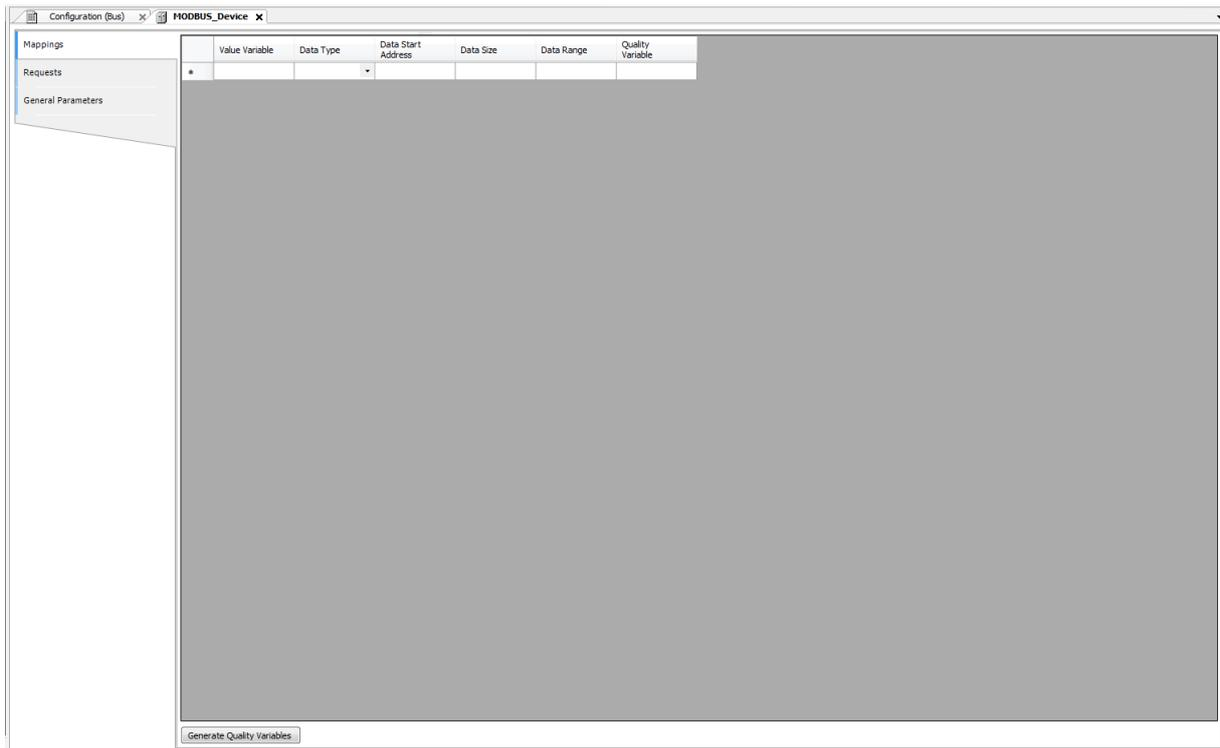

Figure 56: MODBUS Data Mappings Screen
- Add and configure the MODBUS mappings on Mappings tab as Figure 56, specifying the variable name, data type, and the data initial address, the data size and range are filled automatically.